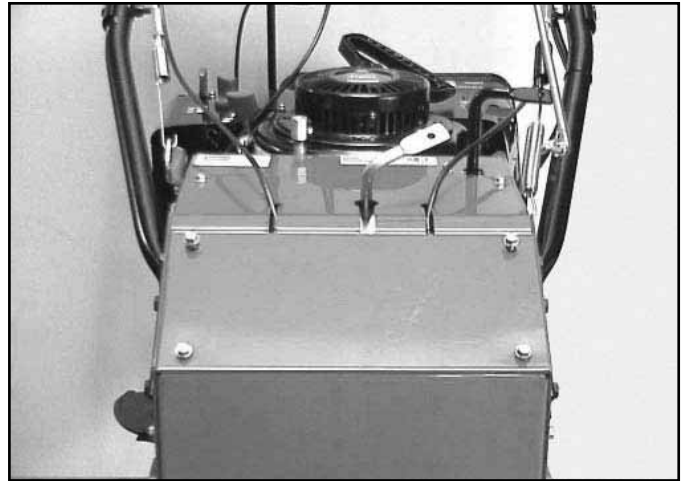

Fig 175 MVC-2193X.jpg
25. Install the upper and lower covers, with the upper cover over lapping the lower cover (Fig. 175).